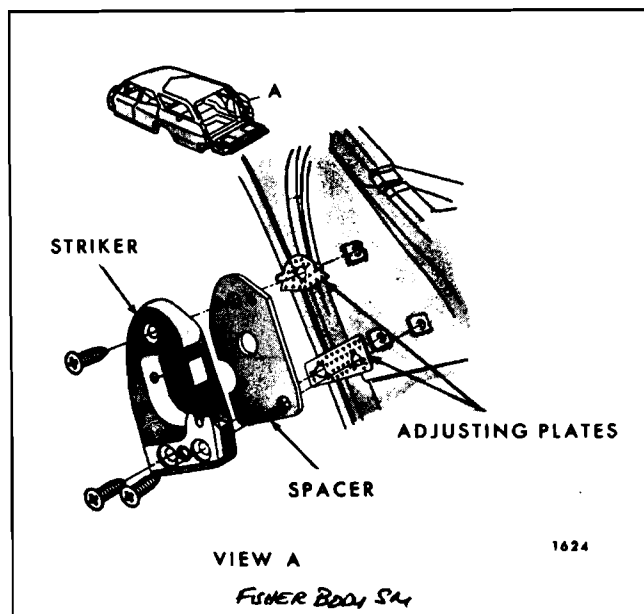

Fig. 9-48—Tail Gate Striker Assembly
3. To install, align striker and components within pencil marks and install attaching screws (See Fig. 9-48).